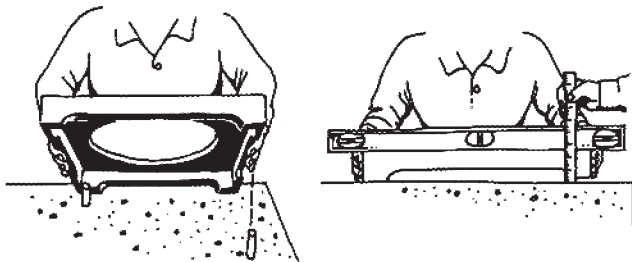

FIGURE 4-3
3. Position base over dowels and check for level. Most desks are pitched to ensure runoff of moisture. If necessary, scribe and trim the plinth to level (using a fine-toothed hacksaw if plinth is aluminum, or a fine-toothed wood saw if plinth is wood, polyurethane, or fiberglass). Make sure that you maintain the same amount of ventilation as supplied (Fig. 4-3)